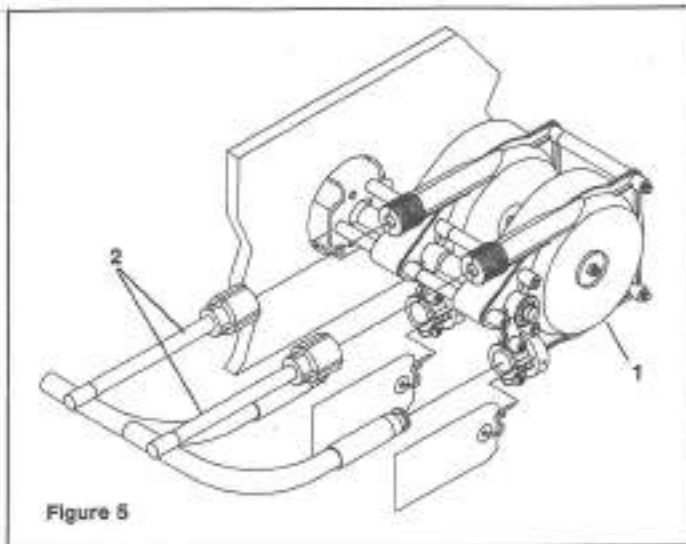

Figure 5
**STEP 3.** Feed the cable ends into the **LOWER** helm entry spigots, keeping the conduit fittings aligned, until they contact the internal gears. Then turn the steering wheel to draw the cables fully into the helm (see Figure 5). Continue turning wheel until end fittings of cables are entered into the entry spigots, and wheel cannot be turned further. During this you may hear a click as the locking mechanism engages. Turn steering wheel fully in the other direction until it cannot be turned any further, check that cable end fittings are retained inside the entry spigot.